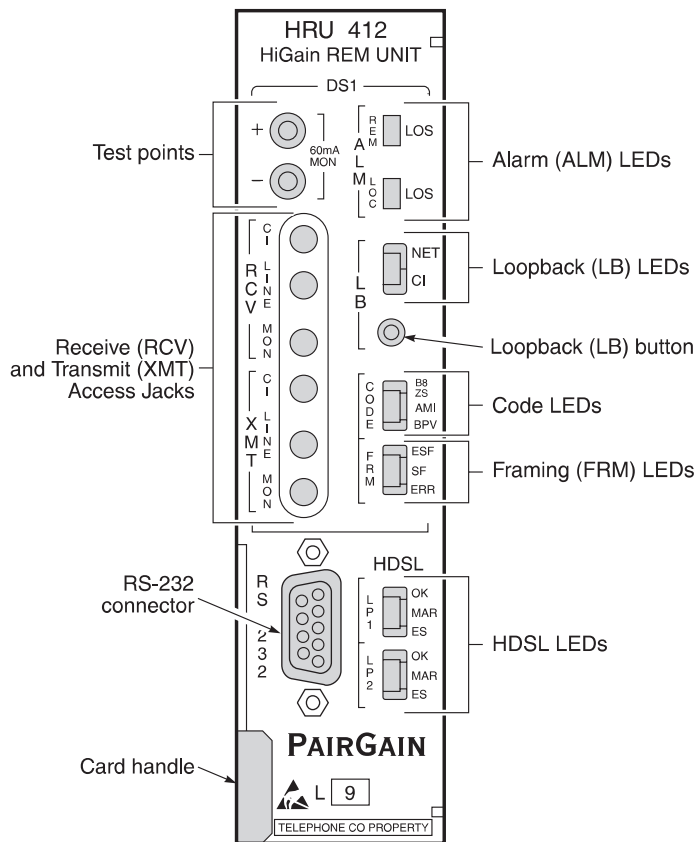

Figure 2. HRU-412 Front Panel
1.6 Front Panel. Figure 2 and Table 1 identify the HRU-412 front panel components. Table 2 describes the functions of the front panel components and Table 3 describes how to read the different system status conditions indicated by the LEDs.